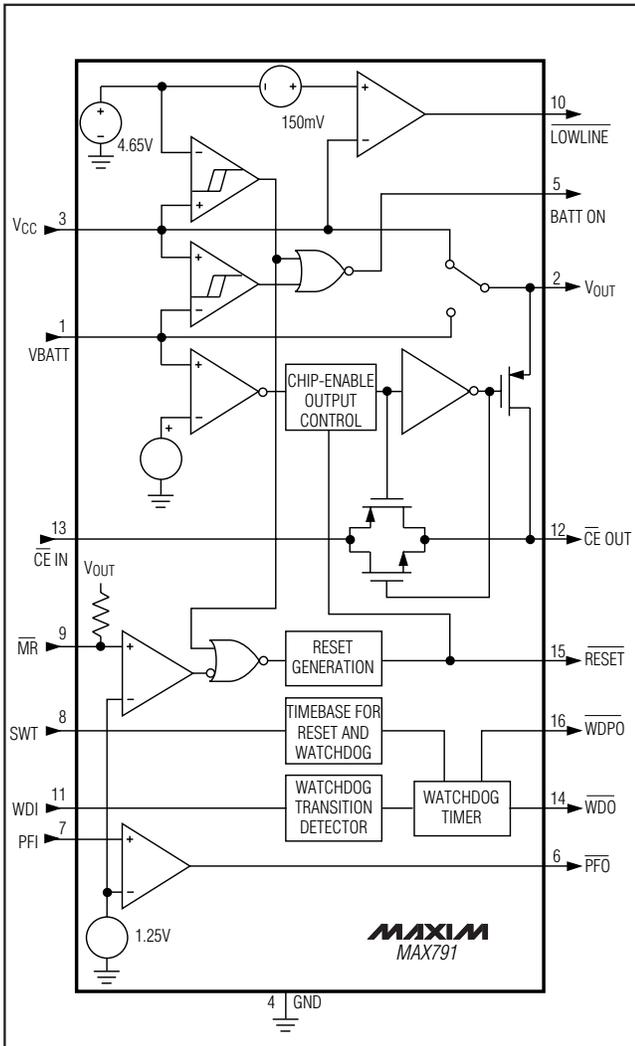

Figure 1. MAX791 Block Diagram
Many μ P-based products require manual-reset capability, allowing the operator or test technician to initiate a reset. The Manual Reset Input (MR) can be connected directly to a switch, without an external pull-up resistor or debouncing network. It connects to a 1.25V comparator, and has a pull-up to V_{OUT} as shown in Figure 1. The propagation delay from asserting MR to RESET asserted is 4 μ s typ. Pulsing MR low for a minimum of 15 μ s resets all the internal counters, sets the Watchdog Output (WDO) and Watchdog-Pulse Output (WDPO)